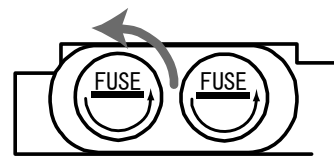

Fig.7-3
3. Use a flat-blade screw driver and turn the fuses to the arrow directions mentioned on the fuse holders. (See Figure 7-3, counter-clockwise)